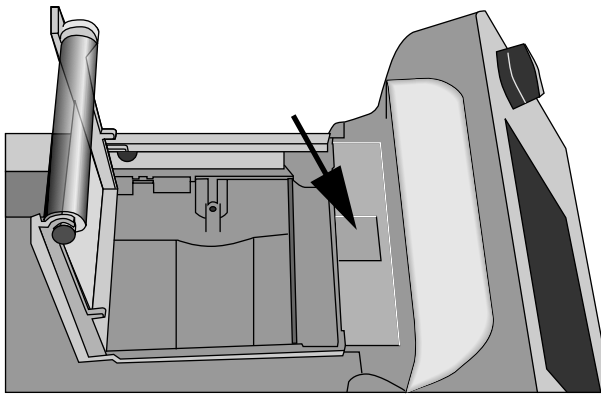

Figure 12-2. Opening the paper compartment door
- Open the paper compartment door all the way (Figure 12-2).